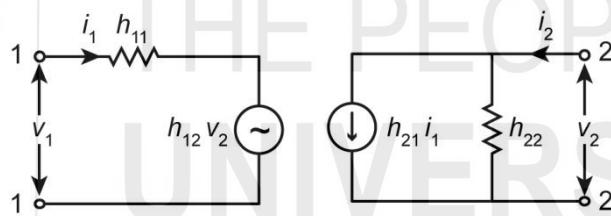
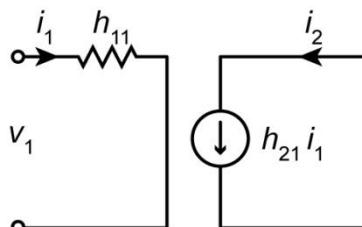
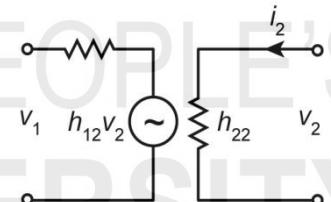

Fig. 5.3: 4-terminal network with h -parameters.
Fig. 5.4: h -parameter circuit with short circuited output.
Fig. 5.5: h -parameters circuit with open input terminals ($i_1 = 0$).
Fig. 5.3 shows the circuit with h -parameters.
Refer to Fig. 5.3. To understand the meaning of h_{11} and h_{21} , let us assume that the output terminals (2-2) are short circuited as shown in Fig. 5.4, then the output voltage v_2 will be zero.
After learning about the input impedance and current gain, let us find out the significance of remaining two h -parameters. For this purpose, we take the input terminals (1-1) in Fig. 5.3 to be open as shown in Fig. 5.5. With this, we get zero current entering the circuit from input side and so $i_1 = 0$. Hence,
- In the circuit shown in Fig. 5.4, $v_1 = 50 \text{ mV}$, $i_1 = 20 \mu\text{A}$ and $i_2 = 4 \text{ mA}$. Calculate the input impedance and current gain of the circuit.
- In the circuit shown in Fig. 5.5, $v_1 = 50 \text{ mV}$, $i_2 = 4 \text{ mA}$ and $v_2 = 1 \text{ V}$. Calculate the reverse voltage gain and output admittance of the circuit.